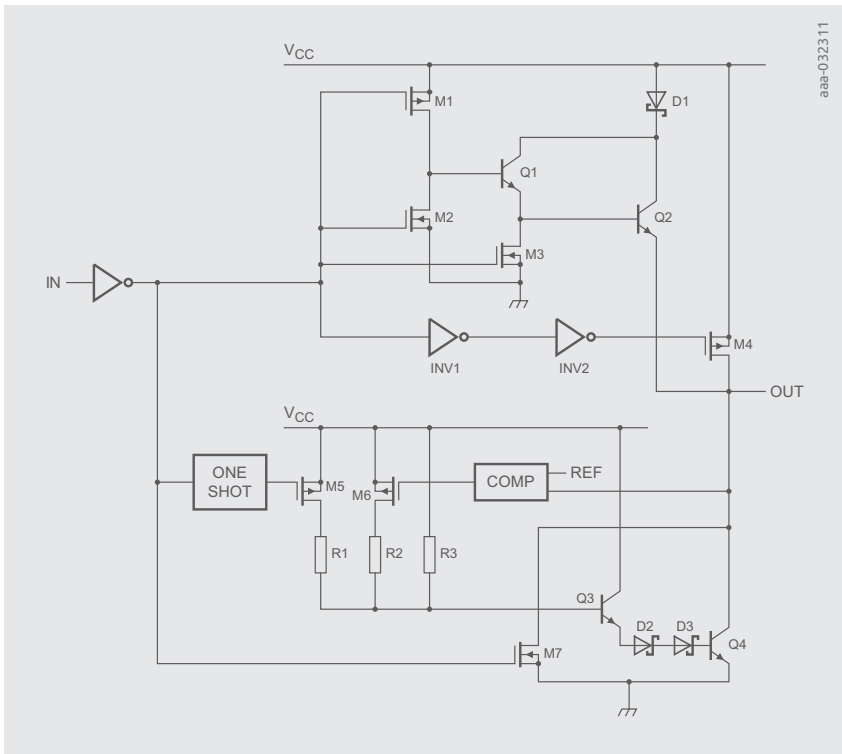

Figure 9.8 | Simplified ALVT circuit
Figure 9.8 gives a simplified version of the internal buffer circuit, with the output enable function (OE) and other details (some of which will be discussed later) omitted. Its purpose is to show the basic aspects of the internal circuit so that applying LVT circuits is made easier and certain aspects of the datasheet are clarified. The input uses a small CMOS inverter stage with a low input capacitance, so no drive energy is needed. The output LOW is bipolar (Q4) with a small (M7) in parallel, and the output HIGH is a combination of a bipolar transistor (Q2) and PMOS (M4) to pull the output to the full V_{CC} . Bipolar transistors introduce less bounce than pure CMOS. The NMOS M7 is very small and therefore does not affect ground bounce. The PMOS transistor M4 is delayed via the inverters INV1/INV2 so that it becomes active somewhat later than Q2 with only a minimal effect on V_{CC} bounce. This construction enables the best possible trade-off between speed and bounce.